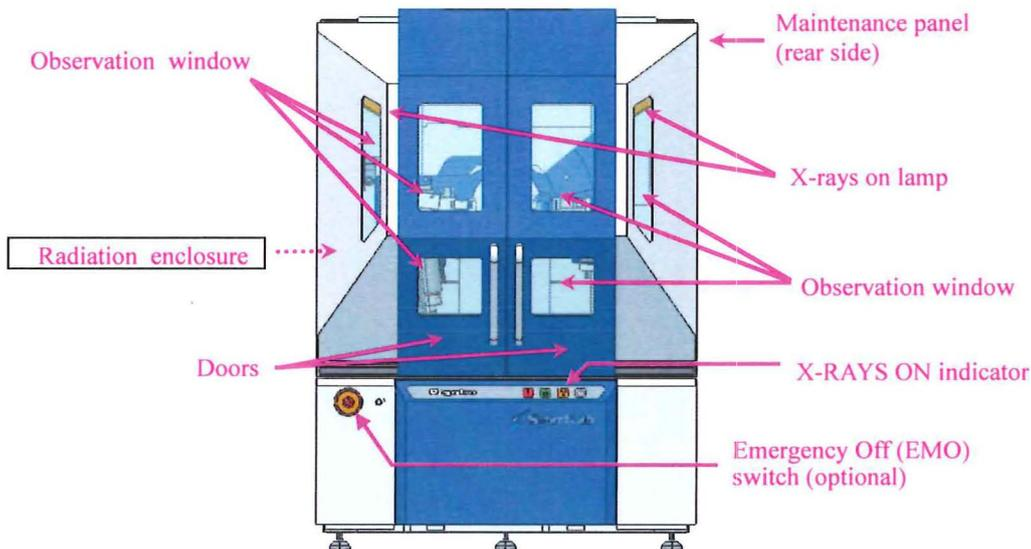

Fig.3 Radiation enclosure
- An X-RAYS ON indicator to indicate the X-ray generation status is provided on the radiation enclosure (see Fig. 3). X-rays cannot be generated if disconnection or short circuit occurs in the X-RAYS ON indicator cable. The X-rays on lamp turns on in yellow while the X-rays are being generated. When X-ray generation has stopped, the X-rays on lamp turns off.